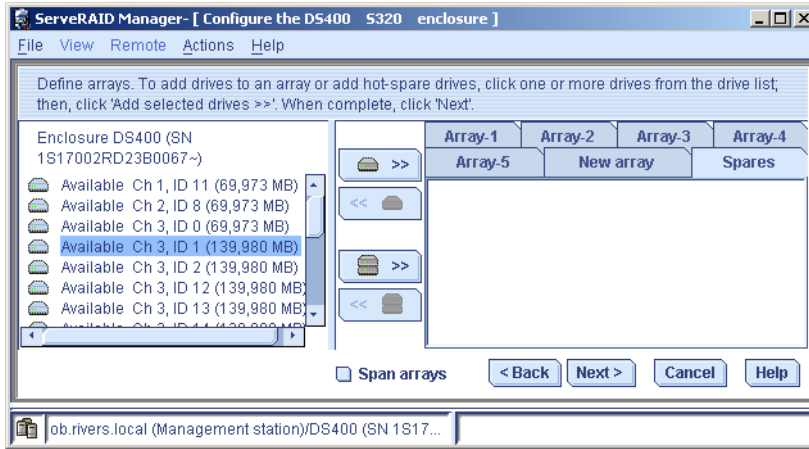

Figure 4-94 Spares tab
10. Click the **Spares** tab to create global hotspare drives. See Figure 4-94 on page 136.